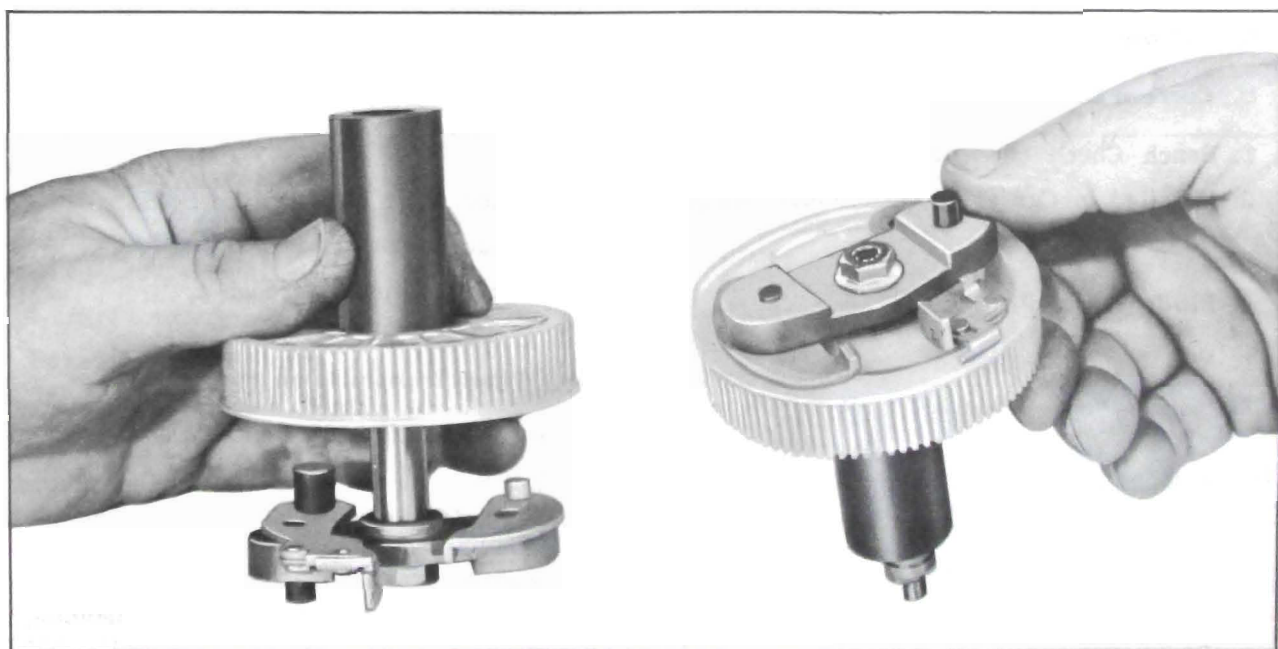

Figure 1-33—Installing Pawl and Shaft into Gear
2. Install the assembled parts from Step 1 in the gear and eccentric shaft as shown in Figure 1-33.